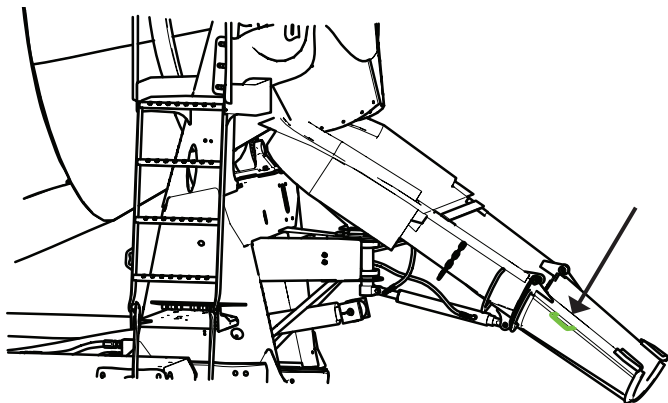

Figure 37
3. Slowly lower the chute into operation position (Figure 37).
1. Grip the fold-over chute using the correct hand-holds (Figure 37).